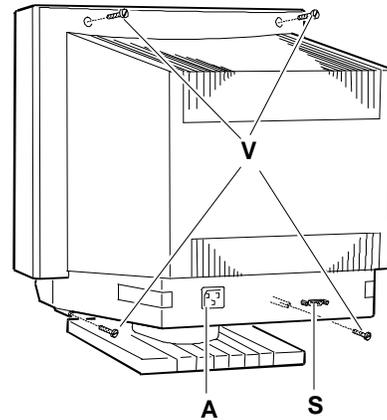

Fig. 39-2 Removing the Case
2. Rest the monitor with its screen against a flat and protected working surface. Lift hook (G) and slide the base out of the securing slots.
3. Using a Philips screwdriver, remove the four screws indicated in figure 39-2 and then remove the case.